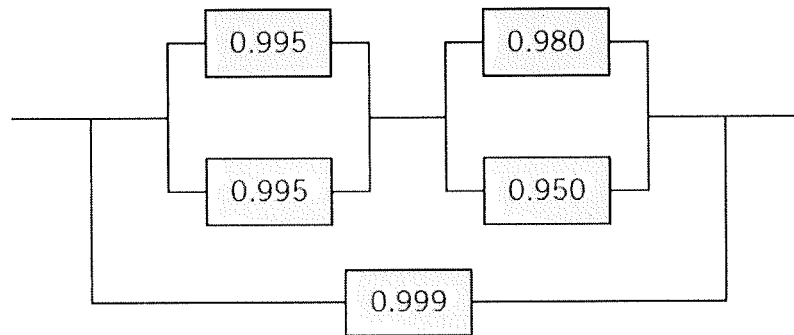

Figure 1: A system connected with different components. Reliability of each component is shown.
- [c] Consider the system shown in figure 1. The reliability of each component is provided in the figure. Assuming that the components operate independently, calculate the system reliability.